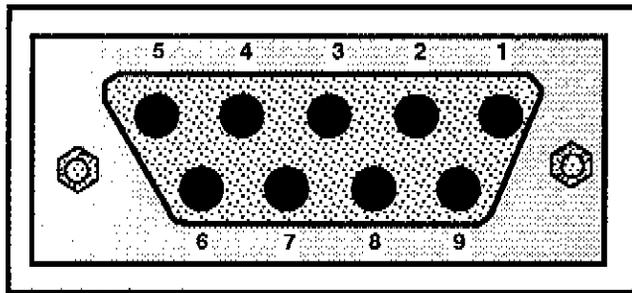

Figure 3-4. Accessories connector J103.
- d. Connect a 1 MHz square wave signal to Pin 1 of J103 on the rear panel of the Spectrum Analyzer. See Figure 3-4.